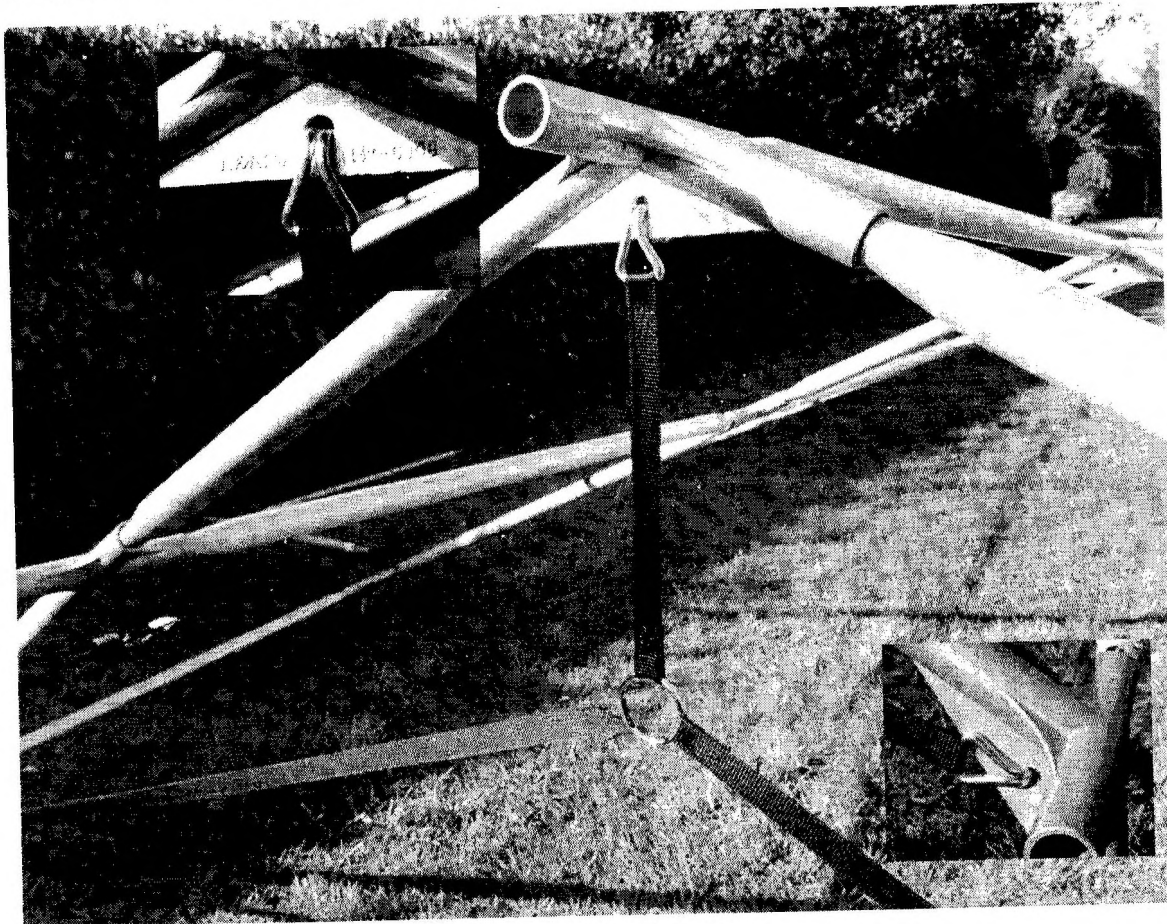

Figure 17: Installation of end gable strap with insets of hook connection
29. Install the end gable strap (Qty 2) Fig 17, this holds the frame eaves in place to enable the end gable cover to be fitted without stressing the material. It also increases the snow and wind loading characteristics of the tent structure. The strap is a pre-set size and attaches to the holes in the web of the apex bracket and the eaves brackets of the frame at the gable ends. Attach the hook to the apex bracket first and then using 2 persons push the frame together at the eaves brackets to enable the strap to be attached.